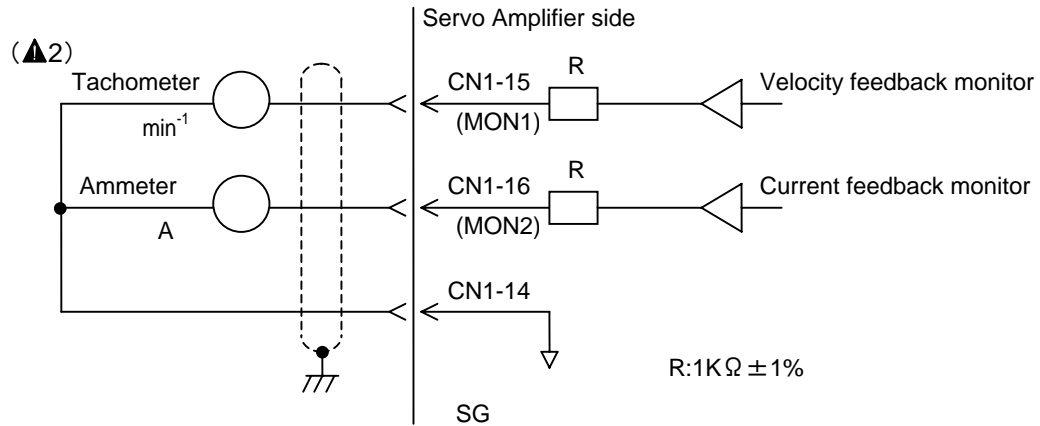

Fig. 9-9(5) Typical Connection of Monitor and Measuring Instrument
When connecting a measuring instrument to the velocity feedback monitor or current feedback monitor, use a both-swing type DC voltmeter and connect it as shown in Fig. 9-9 (5).